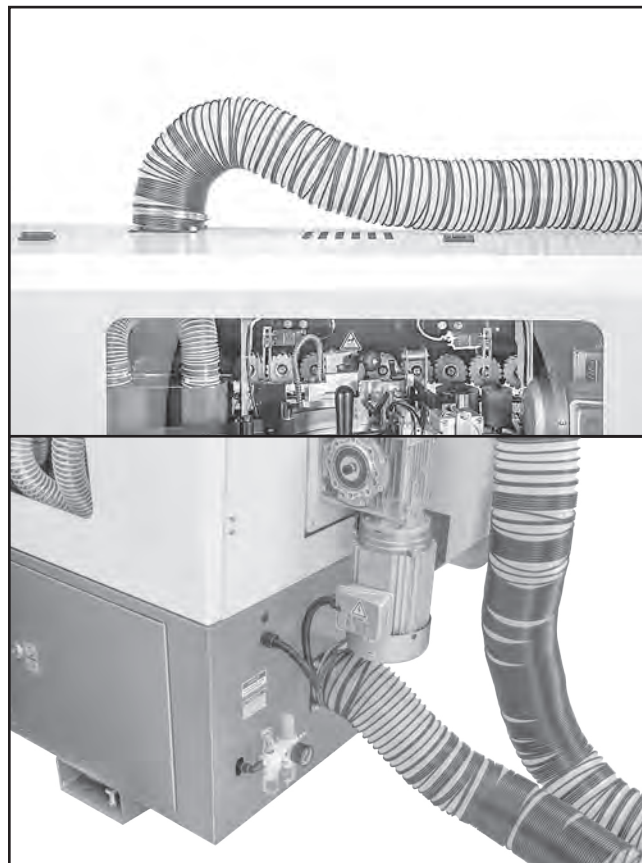

Figure 33. Dust hoses attached to dust ports.
1. Fit a 5" dust hose over each dust port, as shown in **Figure 33**, and secure them in place with hose clamps.